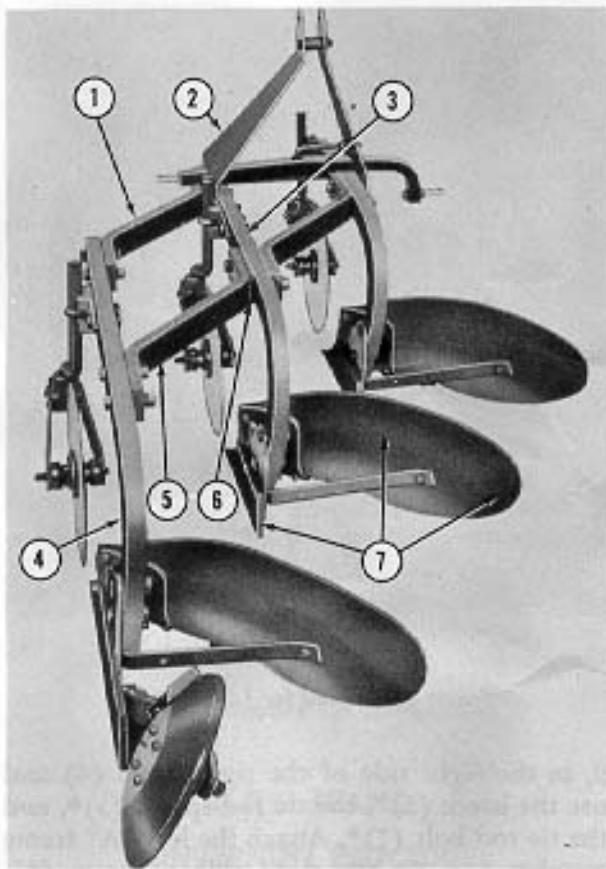

Figure 10
To add a third bottom to the 14" plow as shown in Figure 10, remove the rear bottom and rolling landside from the beam (3) and attach it to the third beam (4). Attach the third bottom (7) to the center beam (3), Figure 10. Attach the beam (4) to the beam (3) with the braces (1) and (5) as shown in Figure 10. Use a spacer (6) between the beam (3) and the brace (5).
For the conversion of the 12" two-bottom plow frame to a three-bottom frame, the spacer (6), Figure 10, is also used between the brace (1) and the beam (3).